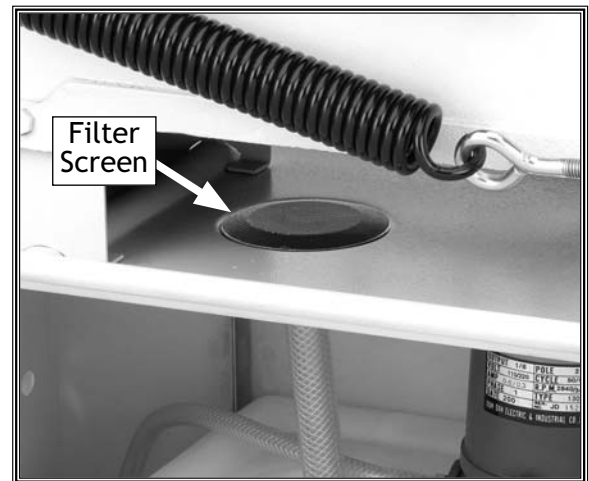

Figure 13. Installed drain screen.
1. Place the filter screen dome-side up as shown in **Figure 13** in the bandsaw catch pan.